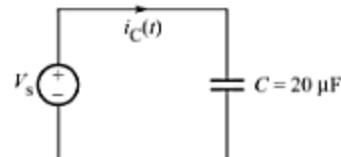

Fig. E-14
- E-7. Figure E-14 shows a 20- μ F capacitor that has a voltage $v_s(t) = 0$ V, $t < 0$; $v_s(t) = 10^4t^2$ V, $0 < t < 0.1$ s; $v_s(t) = 100$ V, $t > 0.1$ s. (a) Find the